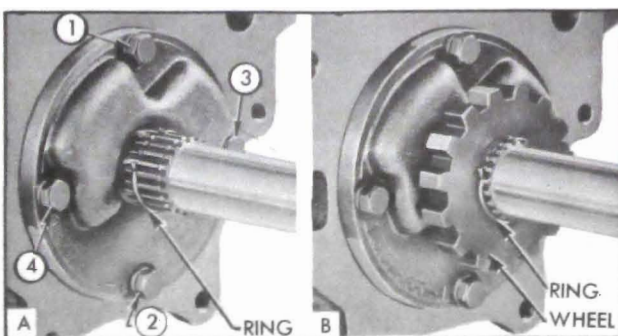

Figure 5-91—Pump Bolt Tightening Sequence—Installation of Ratchet Wheel
4. Install pump bolts with lockwashers, tighten evenly to 5 ft. lbs. torque in sequence shown in figure 5-91 (A), then tighten in same sequence to 25-30 ft. lbs. torque.
1. Install a retaining ring in the forward groove in output shaft, install ratchet wheel, then install retaining ring in rearward groove in output shaft See figure 5-91.